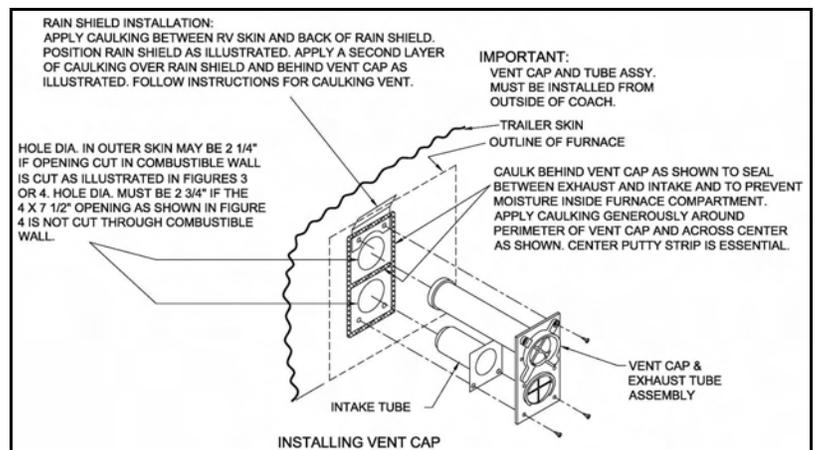

Figure 7
Suburban recommends all vents be installed using the rain shield supplied. (See Figure 7)
1. Apply caulking to RV skin behind vent cap as shown in Figure 7. Apply caulking generously around perimeter of vent cap and across center as shown.